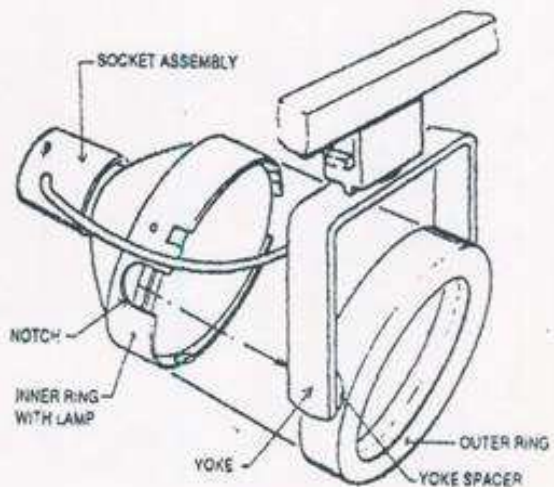

FIG. 7
2. Remove INNER RING from OUTER RING by pulling straight out (Fig. 7).
4. Screw LAMP with INNER RING into SOCKET ASSEMBLY as shown (Fig. 7).
5. Engage INNER RING & LAMP ASSEMBLY into OUTER RING lining up (2) NOTCHES with (2) YOKE SPACERS. The (3) LAMP SPRINGS will hold the assembly together. (Fig. 7)